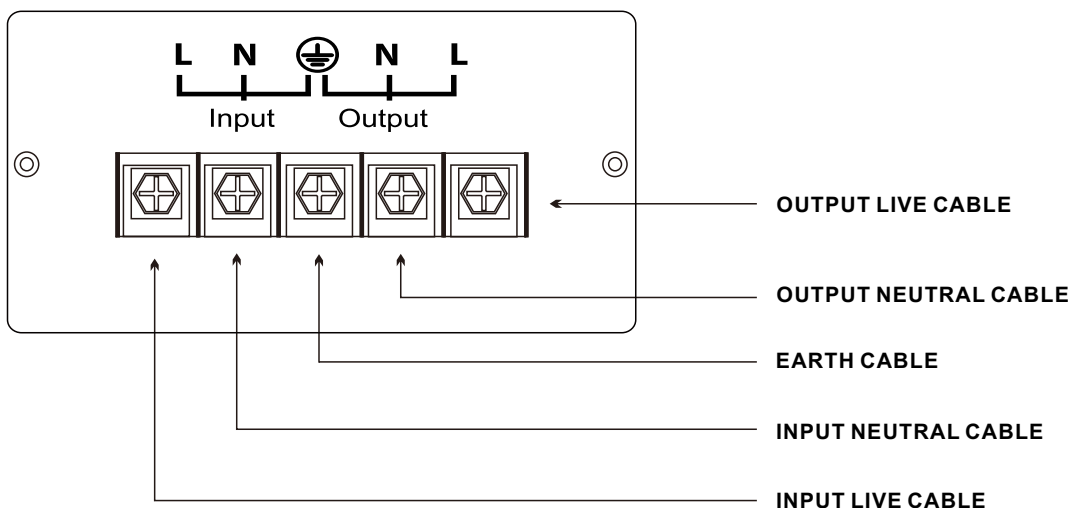

Figure 3
- For 500-2,000VA, plug the appliances into the **OUTPUT SOCKET** of the AVR. For 3,000-10,000VA, make wiring connection as shown in **Figure 3**.
For 3,000-10,000VA, make wiring connection as shown in **Figure 3**.